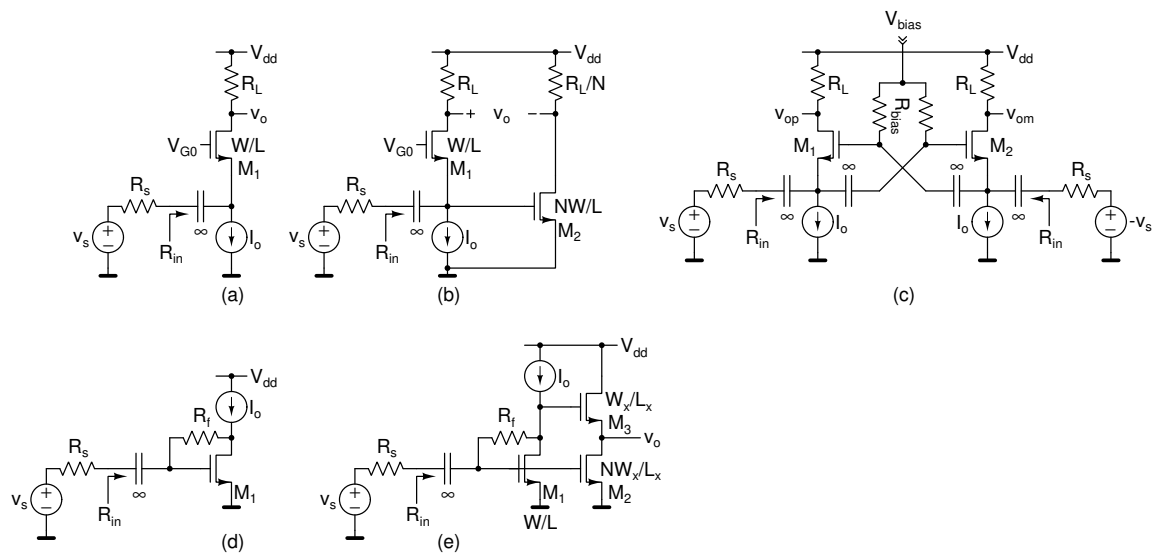

Figure 3.6: Problem 3.6.
- Determine the g_m of M_1 in Fig. 3.6(a) so that the input source is matched, i.e., $R_{in} = R_s$. Determine the gain v_o/v_s .
- Determine the g_m of M_1 in Fig. 3.6(b) so that the input source is matched, i.e., $R_{in} = R_s$. Determine the gain v_o/v_s . V_{G0} is adjusted such that M_1 and M_2 have the same V_{GS} .
- Determine the g_m of M_1 (M_1 and M_2 are identical) in Fig. 3.6(c) so that the input source is matched, i.e., $R_{in} = R_s$. R_{bias} is very large. Determine the gain $v_o/2v_s$. $v_o = v_{op} - v_{om}$.
- Not for submission. Repeat the above for Fig. 3.6(d, e).